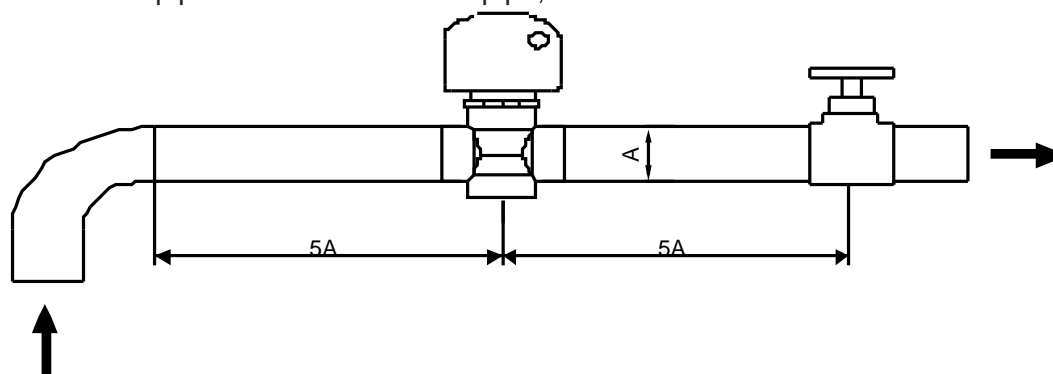

Figure 9
- When moving, water inlet and outlet pipe shall not be used for hanging, only the holes on the beam of the base can be used, please refer to Figure 9